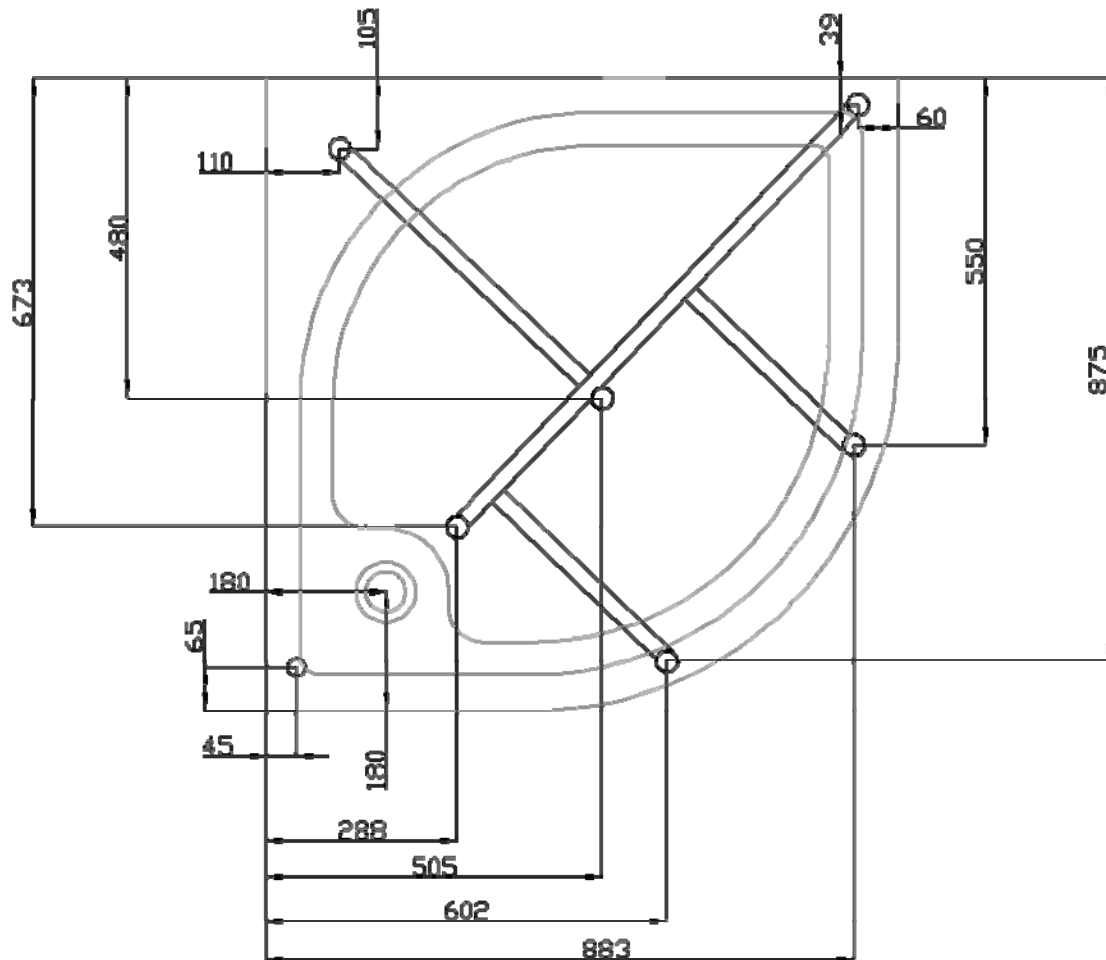

Fig 1 Legs and frame position (top view)
3. For installation of the drain in the floor please refer to the **Legs and frame position (top view)** fig 1 (actual position of the drain and frame on the tray).